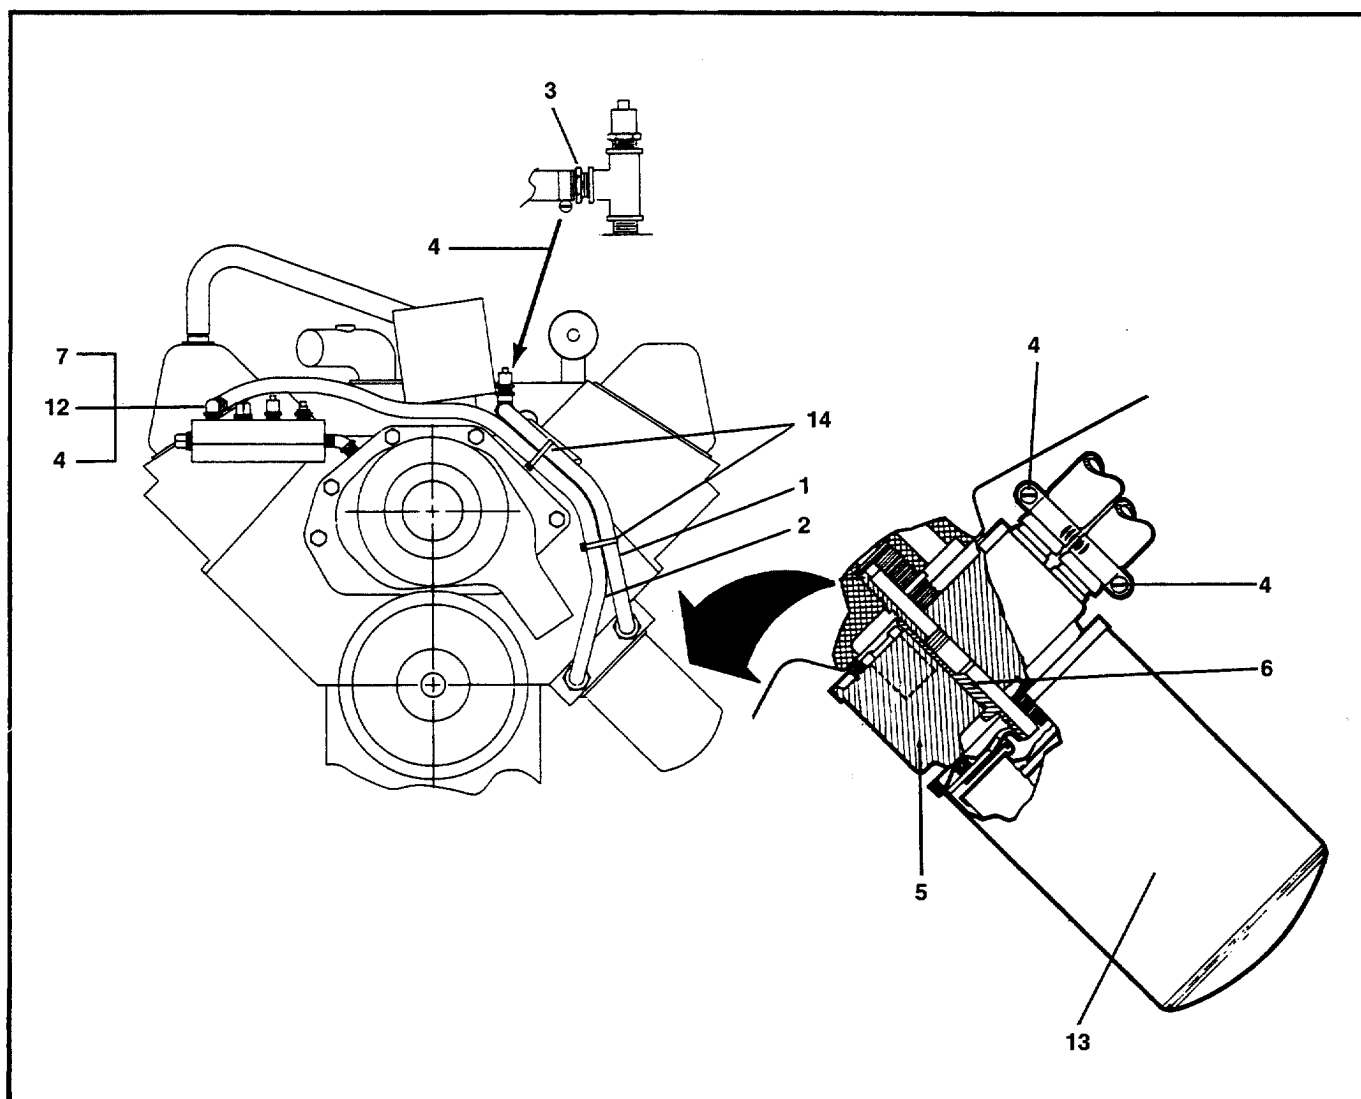
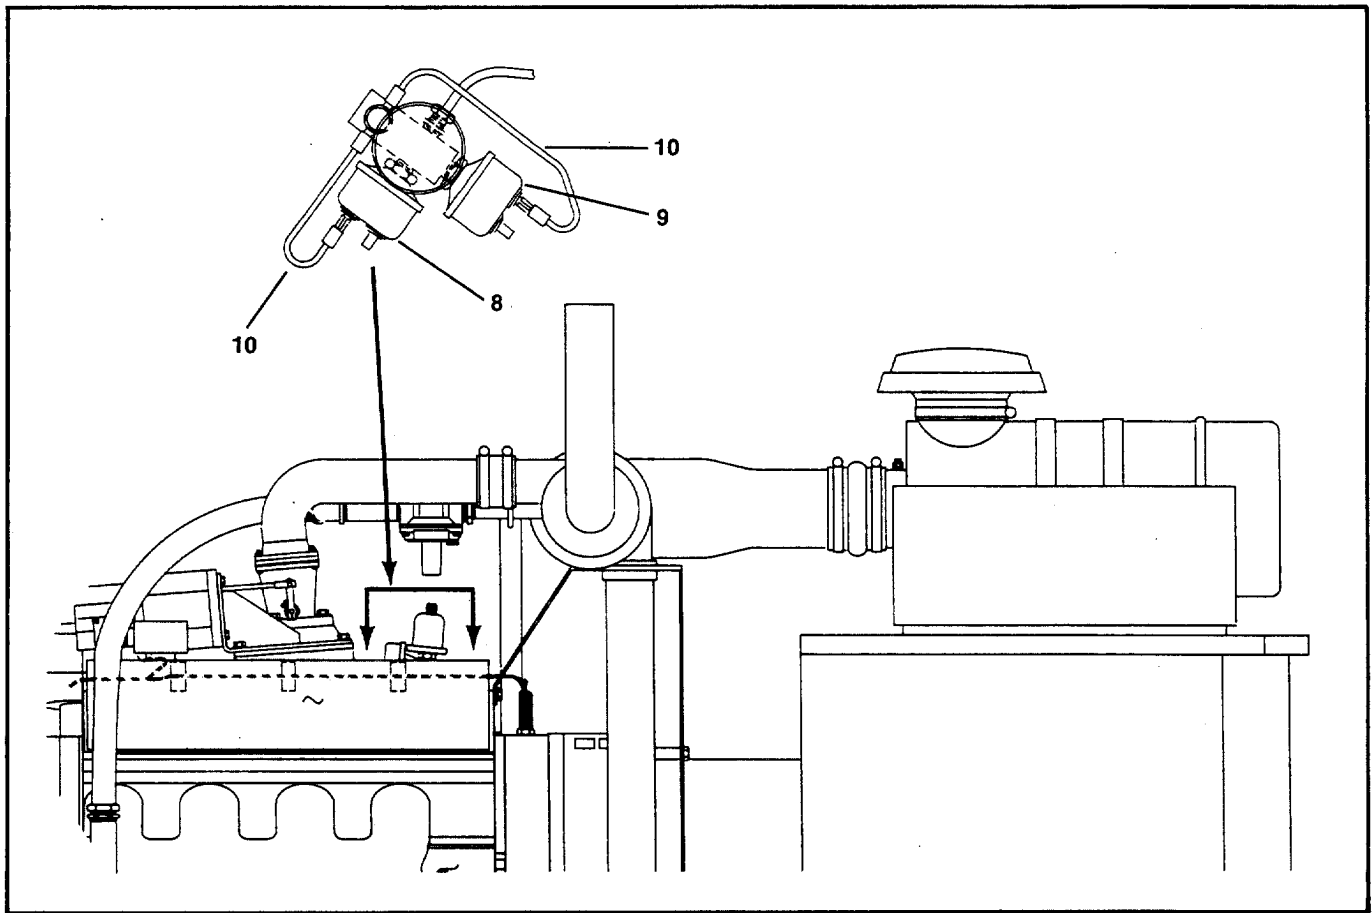

Figure 1. Oil Cooler Installation
Figure 2. Oil Pressure Switch(es) Installation
2. Lubricate oil cooler gasket with engine oil and press gasket into groove on oil cooler (see Figure 1).
3. Clean threads, and apply "Loctite" thread-locking compound to inner threads only of oil cooler connector (6) supplied with kit.
4. Place oil cooler body over the oil cooler connector with cooler gasket towards engine. Position cooler body with hose connections pointing forward as shown in Figure 1.
5. Secure oil cooler to engine with oil filter connector as shown in Figure 1. Tighten until oil filter connector is fitting snugly with gasket against engine, then tighten connector with another 3/4 turn. Wait 20 minutes for "Loctite" to cure, before installing filter.
6. Drain two gallons of coolant from radiator. Remove hose connection elbow from switch-sender block and replace with elbow (7) supplied with kit (see Figure 1). Use thread sealer when installing new elbow.
7. Install hose connector fitting (12) on elbow, using thread sealer. Connect 29-inch hose (2) to hose connector fitting with hose clamp (4). Connect other end of hose to oil cooler, as shown in Figure 1, using hose clamp (4).
8. Remove original hose connector from tee on manifold, and replace with hose connector (3) as shown in Figure 1. Use thread sealer when installing new connector.
9. Attach 21-inch hose (1) to connector and oil cooler using hose clamps (4).
10. Remove original oil pressure switch(es) from switch block (see Figure 2 for location).
11. Install supplied oil pressure switch (8) using thread sealer. Attach ground lead (10) to switch as shown in Figure 2. Connect harness wire 13 to switch.